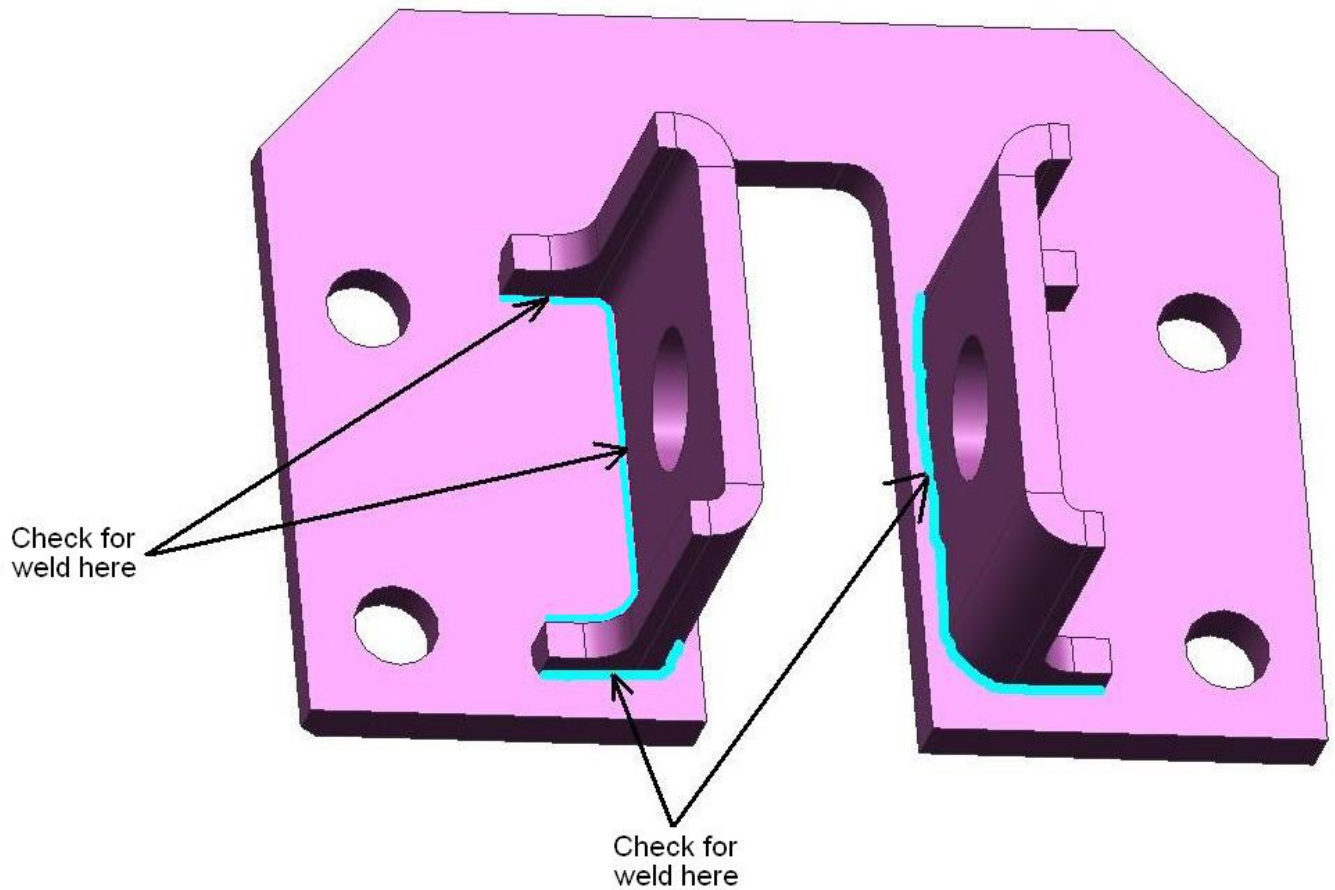

Figure 1: Radius rod mounting bracket.
3. Clean and visually inspect the front radius rod bracket on both curbside and streetside for missing welds and "rust leaks". Brackets should be welded on both sides of each of the attachment ears and no "rust leaks". See Figure 1.